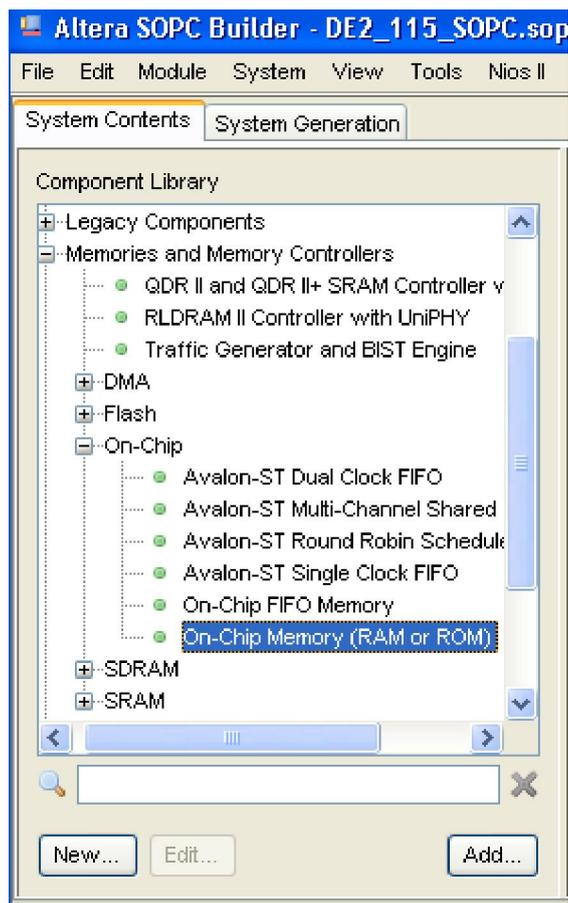
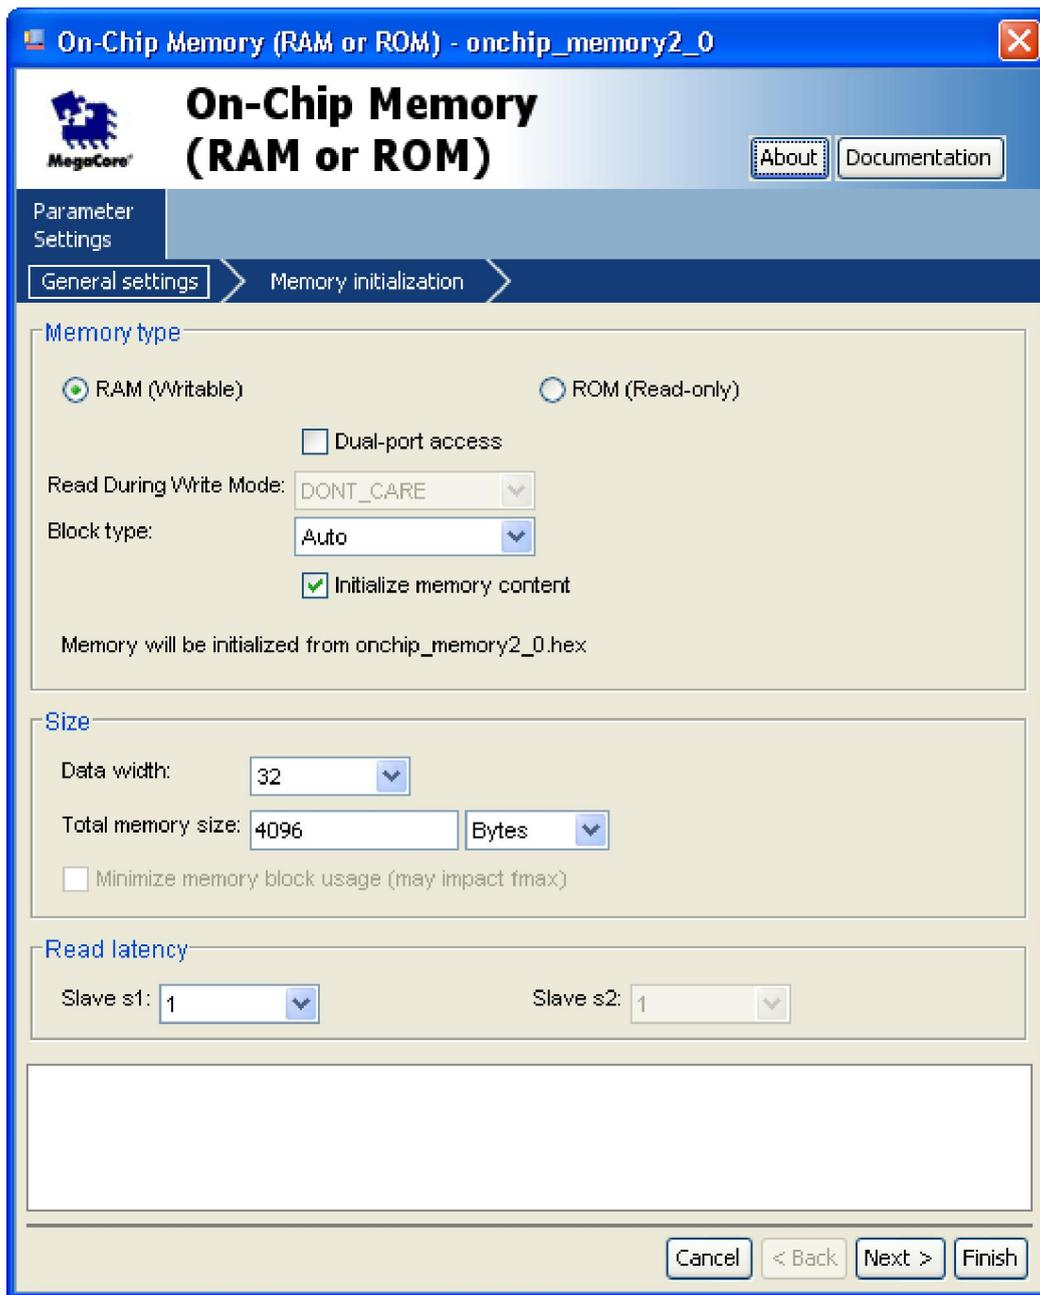

Figure 1-23 Add On-Chip Memory
Figure 1-24 On-Chip Memory Box
15. Choose **Library > Memories and Memory Controllers > On-Chip > On-Chip Memory (RAM or ROM)** to open wizard of adding On-Chip memory. See Figure 1-23 and Figure 1-24.